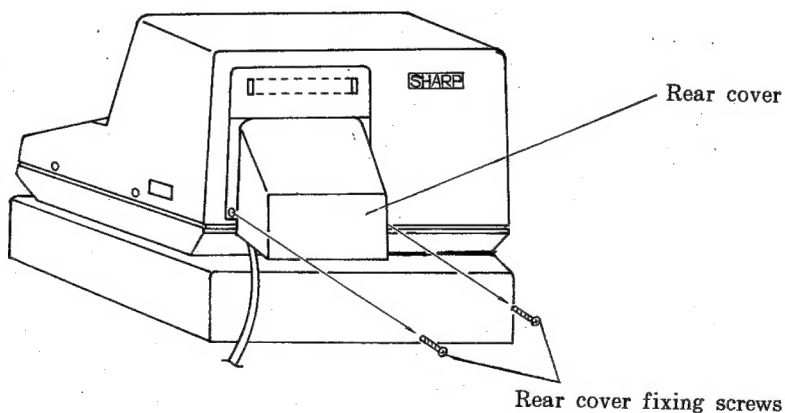

Fig. 2
(1) For safety, unplug the ER-6750.
(2) Remove the rear cover.
a) Remove the rear cover fixing screws (2 pcs.). (See Fig.2.)